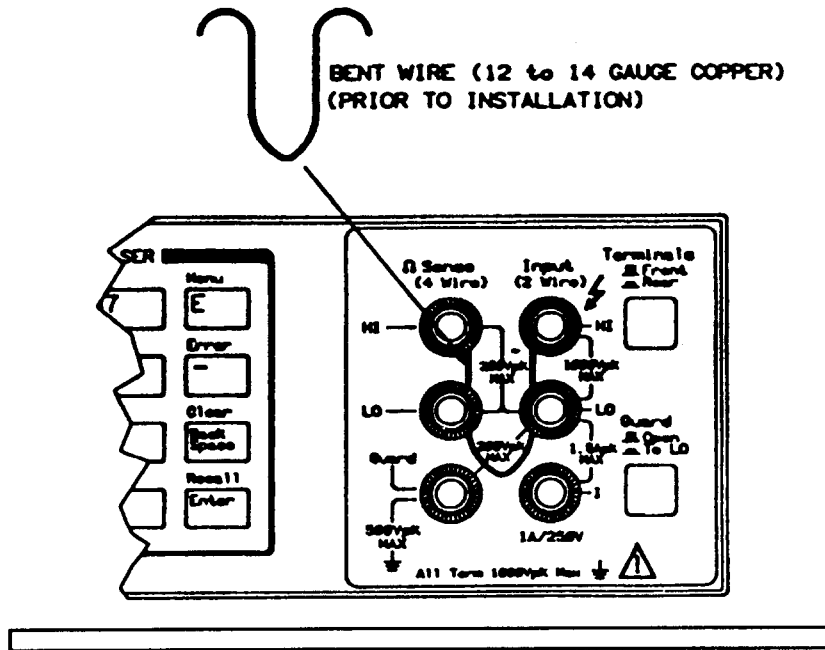

Figure 1. 4-terminal short.
(3) Press keys as listed in (a) through (g) below:
(4) Connect a low thermal short across TI front panel **HI** and **LO** terminals as shown in figure 1.
- (4) Connect a low thermal short across TI front panel **Input HI** and **LO**.
- (5) Press **FUNCTION/RANGE Range** β key to 10 Ω range and allow 5 minutes for the range relays to thermally stabilize.
- (6) Press **MENU Trig** key then **NUMERIC/USER Enter** key. TI indication will be ≤ 00.25007 .
- (7) Remove short from front panel **Input HI** and **LO** and reinstall across rear panel W **Sense** and **Input HI** and **LO** using technique shown in figure 1.
- (8) Press **Terminals Front/Rear** pushbutton to **Rear**.
- (9) Press **FUNCTION/RANGE** blue shift key then **OHMF/OHM** key.
- (10) Press **FUNCTION/RANGE Range** β key to 10 Ω range.
- (11) Press **MENU Trig** key then **NUMERIC/USER Enter** key. TI indication will be ≤ 00.00007 .
- (12) Remove short from rear panel W **Sense** and **Input HI** and **LO**. Release **Terminals Front/Rear** pushbutton to **Front** and press **Guard Open/To LO** pushbutton to **To LO**.